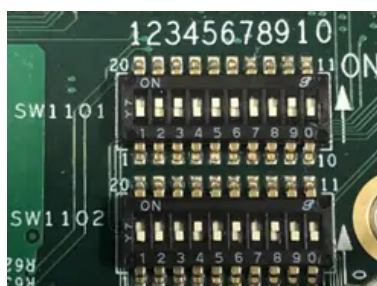

Figure 5. Boot Device Settings
5. Insert the *MicroSD Card* into the *MicroSD Card slot J701* in the back board side. To boot the board from the *MicroSD Card*, change the *Boot Switches SW1101* and *SW1102* (Figure 5) according to the table below: